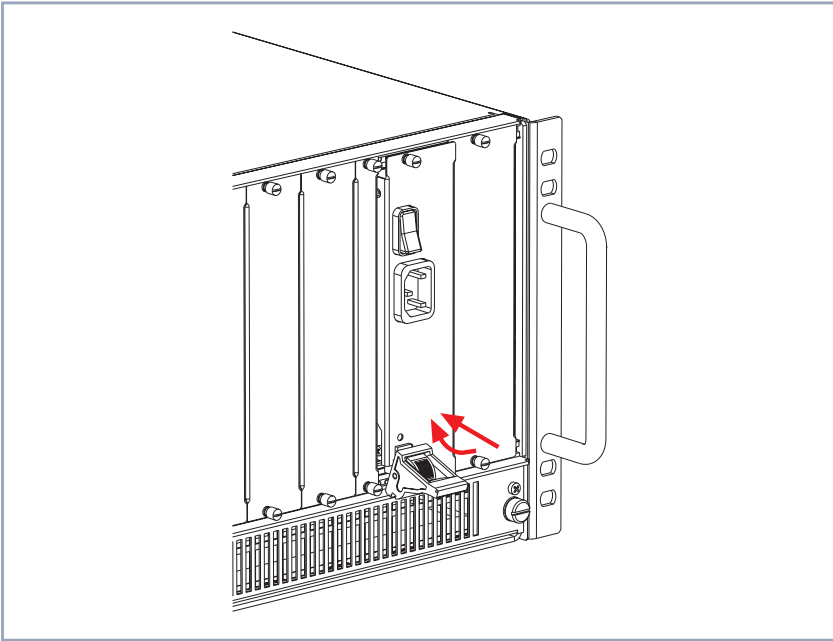

Figure 1-3: Fixing X8A-PS
- Once the power supply unit reaches the connector, fix the injector/ejector handle to the cross section of the case front as shown in figure 1-3, page 22.